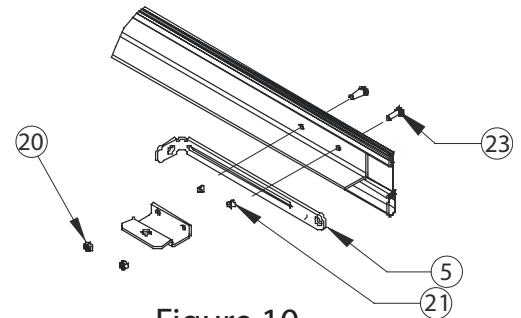

Figure 10
14. Install slide locks to bottom bar as shown in Figure 10.